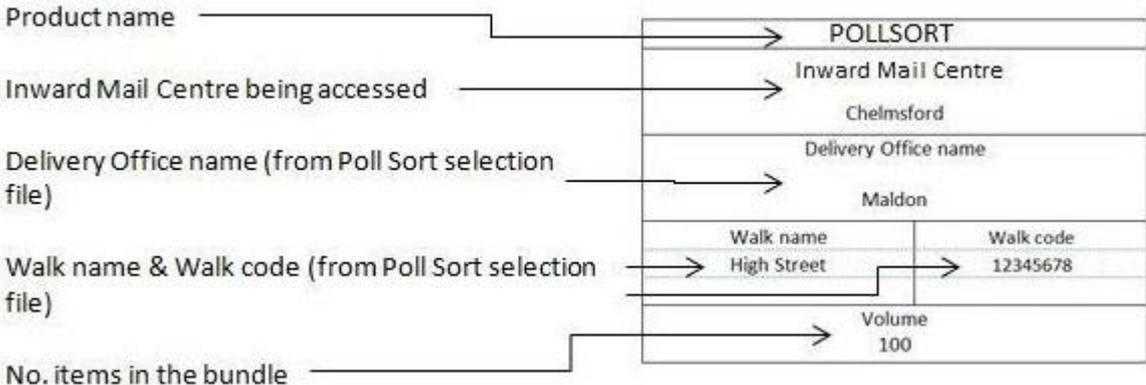

Figure 34: Bundle label
- Tray Labels and York cards must clearly be identified as Poll Sort. Examples of labels are shown below in Figures 34 to 37.